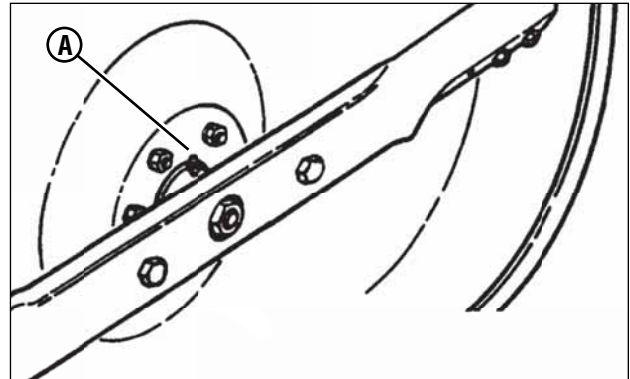

Figure 24: Mower blade spindle grease fitting
3. Lubricate the spindle grease fitting (A, Figure 24) with three shots of general purpose grease from a grease gun.